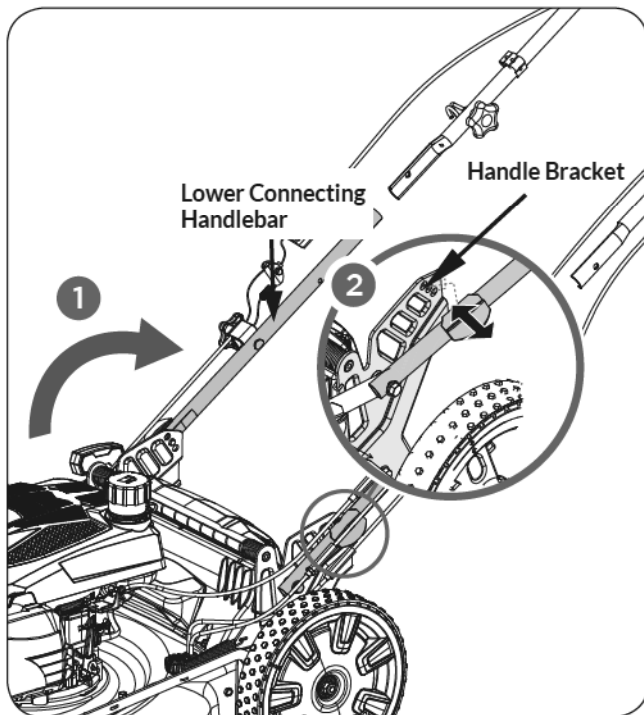

Figure 2
1. Move the folded lower connecting handlebars back to the working position. (See **Figure 2, illustration 1**)
2. Unlocking the knobs, attach the short studs into any one of the three holes in the handle bracket. (See **Figure 2, illustration 2**)